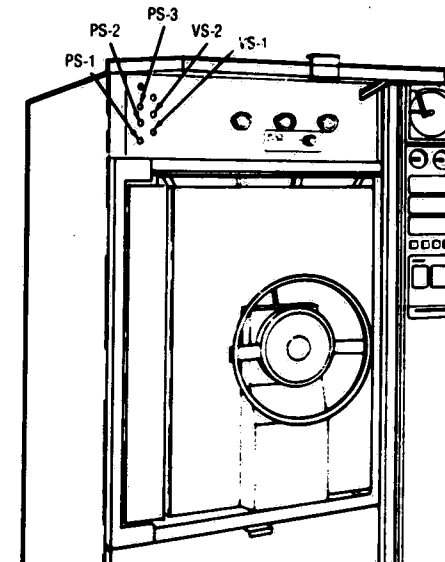

Figure 5-8. ADJUSTMENT OF PRESSURE AND VACUUM SWITCHES.
9. After the sterilize phase has been completed and control has advanced to slow exhaust, observe calibrated compound pressure gauge. When chamber pressure reaches 3 psig, adjust PS-3 (Figure 5-8) to open the fast exhaust valve (S-3) (LED-12). When chamber exhausts to 1 psig, adjust PS-2 to turn on the COMPLETE light and the buzzer (LED-18).